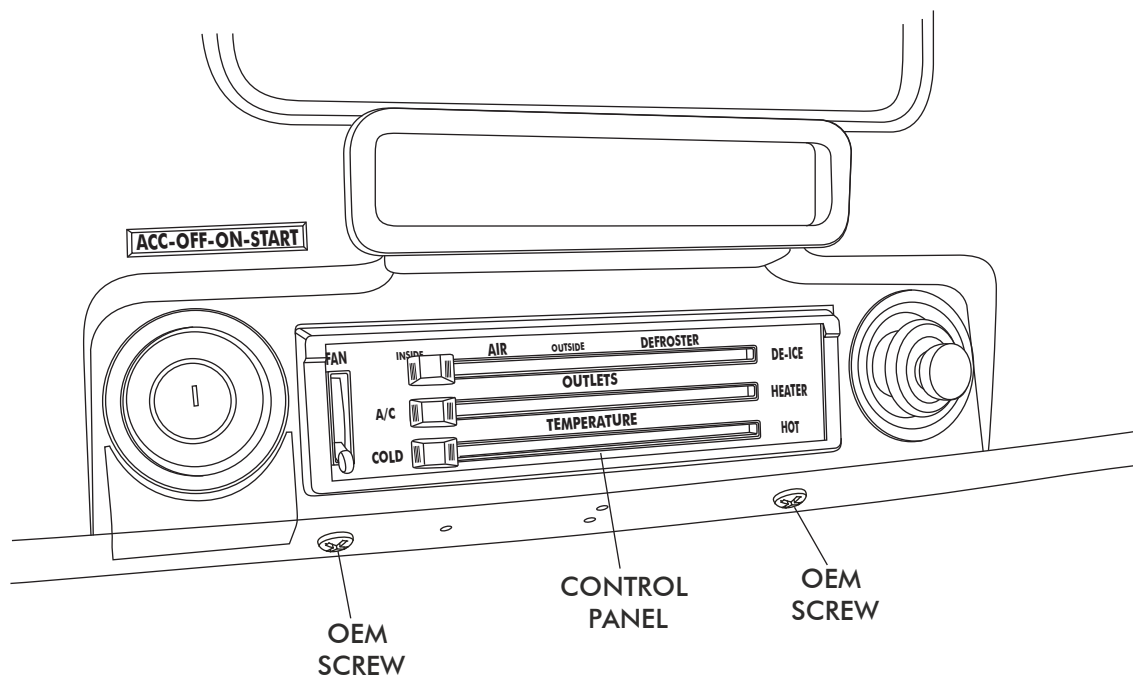

FIGURE 1
- ☐ REMOVE THE (2) OEM SCREWS FROM UNDER DASH. (SEE FIGURE 1 BELOW.)